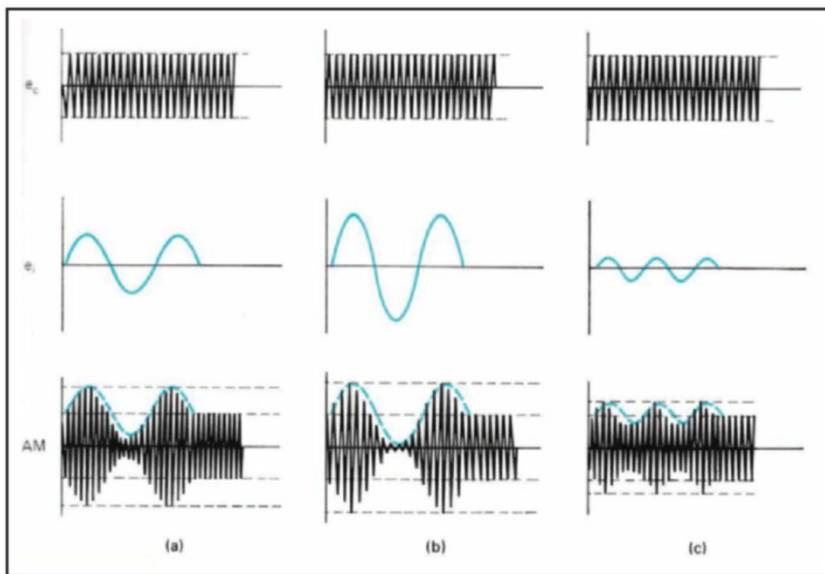

Figure 1: These figures show three levels of amplitude modulation (tremolo depth).
If we multiply the right-hand side of the equation by a number or a wave function, we change or modulate the amplitude. **Figure 1** shows what happens if we modulate a high-frequency wave (e_c) by a lower-frequency wave (e_i), producing an amplitude modulated (AM) wave. If e_c is taken to represent the audio from a musical instrument note and e_i represents the tremolo control waveform, the AM wave shown at the bottom row of waveforms of Figure 1 is the resulting note with tremolo.